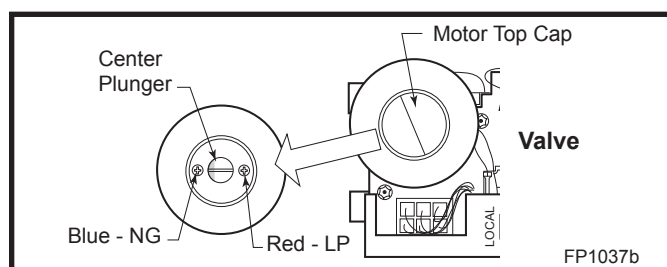

Fig. 61 Depress and turn center plunger.
18. Remove motor top cap. Depress and turn center plunger until arrow points to correct screw. Red for LP and Blue for NG. **NOTE:** Plunger will “snap” into NG position when arrow is close to blue screw. It will not “snap” at LP (Red) position. (Fig. 61)